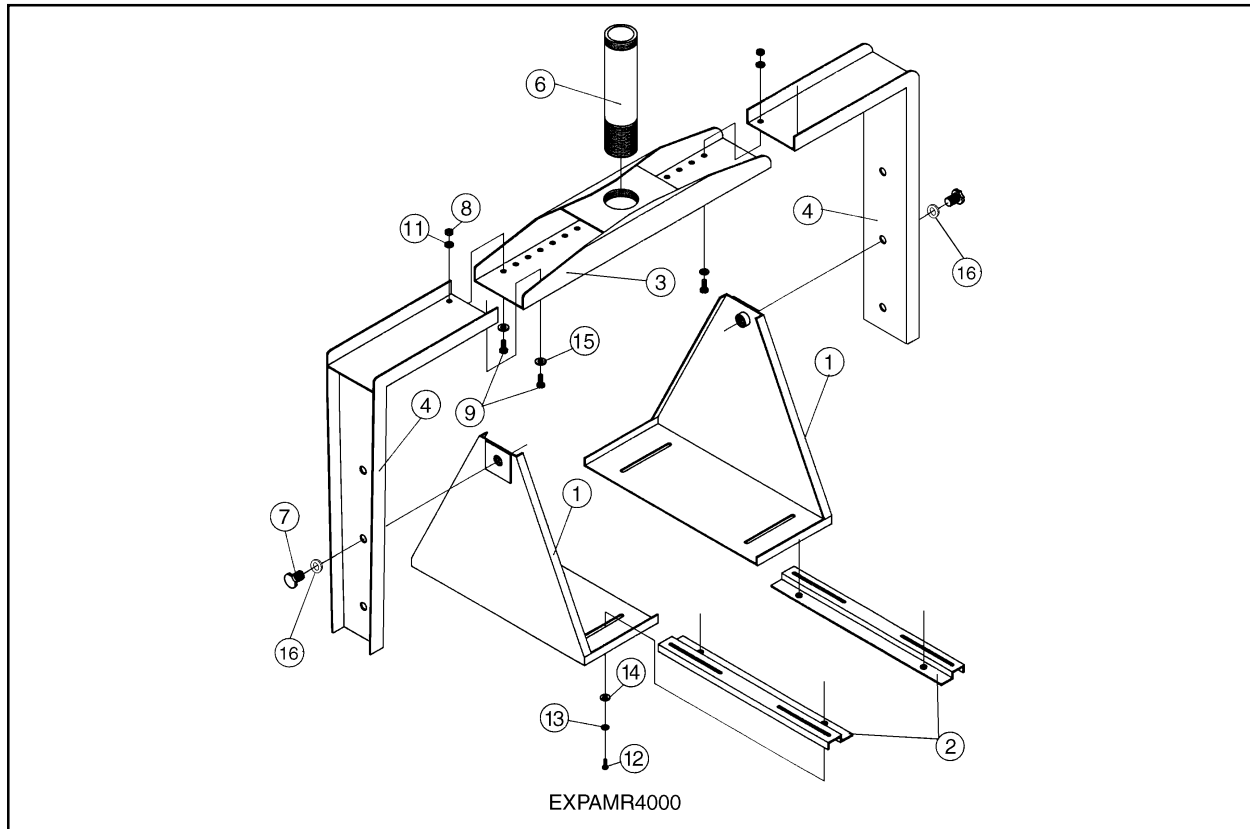

Figure 2. MR4000 Exploded Assembly
3.1.2 Hanger Assembly (See Figure 2)
3. Secure the monitor assembly to the hanger assembly with the #10 screws, lockwasher, and flat washers supplied. (See Figure 2)
An exploded assembly diagram for the MR4000 is shown in Figure 2. Items noted with an asterisk in the parts list (Table A) are parts used for the MRU mount.